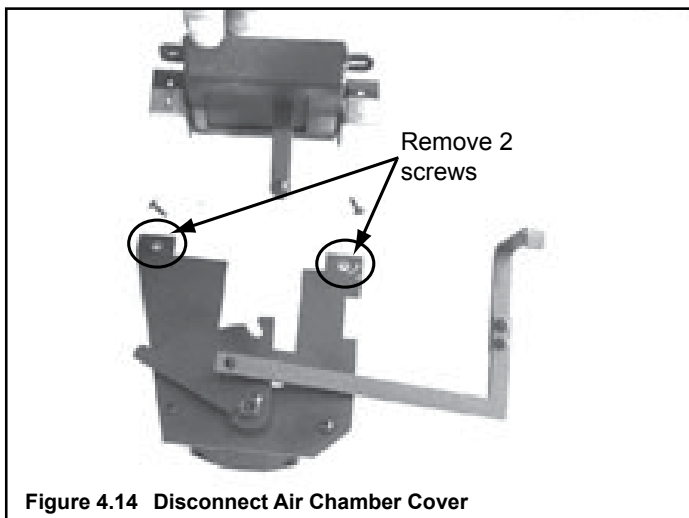

Figure 4.14 Disconnect Air Chamber Cover
- You will need to disconnect air chamber cover from timer assembly before installing in the fireplace. Set screws aside for later use. See Figure 4.14 .